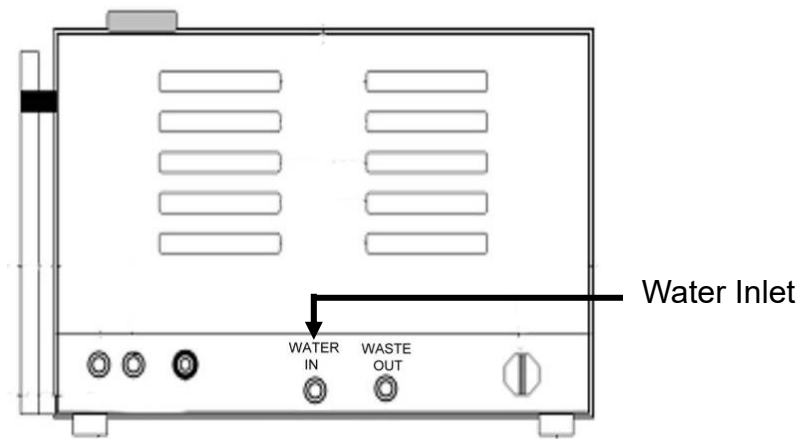

Figure 26
- B. Connect an external water supply to the “WATER IN” on the rear side of the sterilizer by using the 2 m silicon hose for the “Auto add water” function as shown in Figure 26.